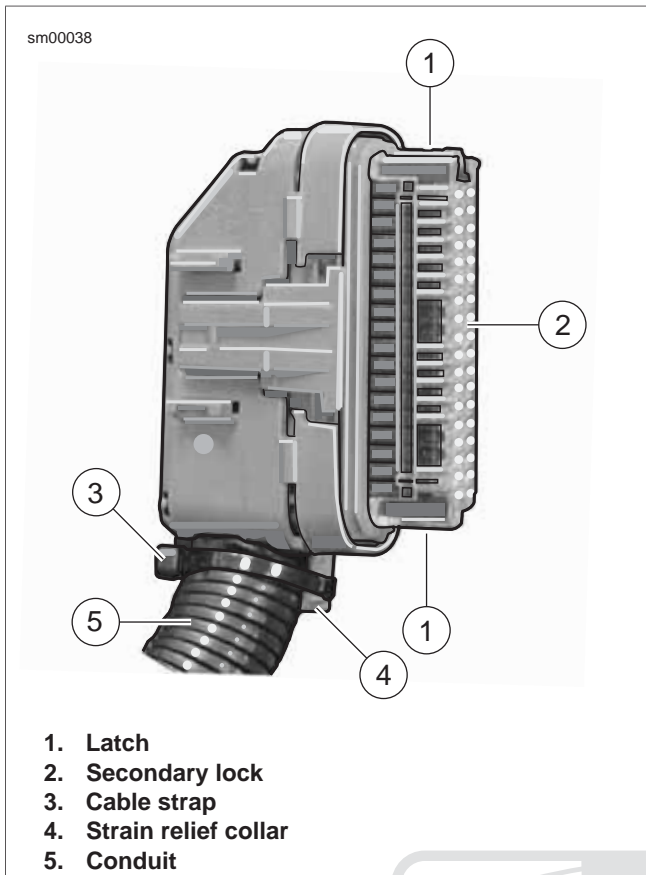
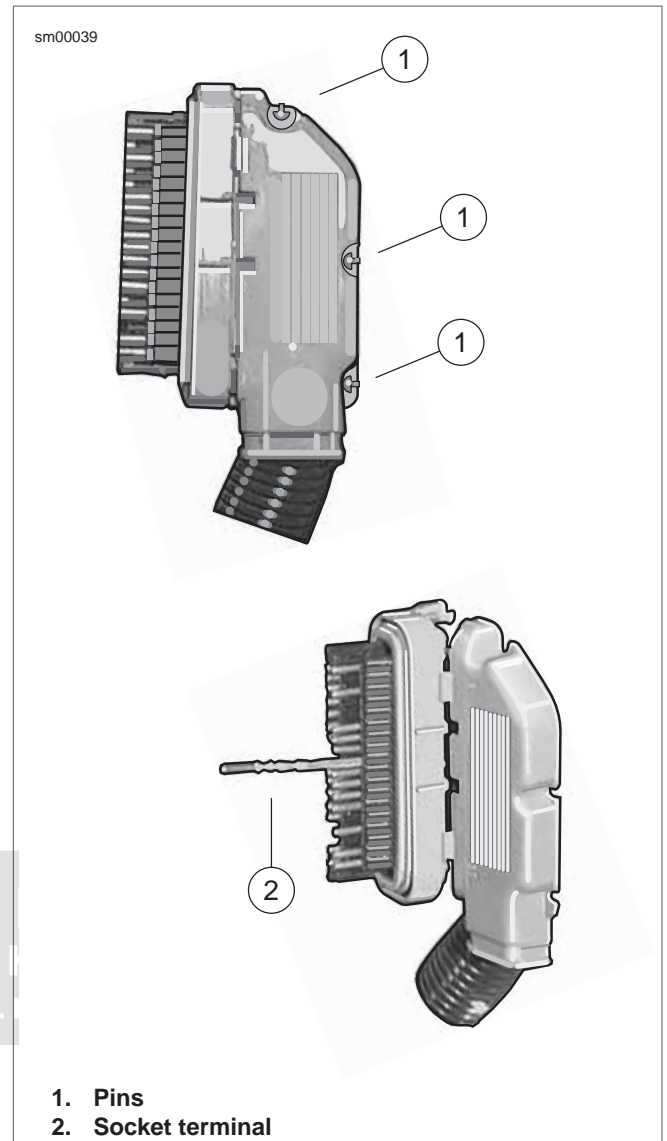

Figure A-39. Packard 100W Connector
Figure A-40. Packard 100W Connector: Separate Halves of Socket Housing
1. See Figure A-39. Gently press latch (1) on each side of the clear plastic secondary lock (2) and remove. For best results, release one side at a time.
2. Carefully cut cable strap (3) to free strain relief collar (4) from conduit (5).
3. See Figure A-40. Using a thin blade, gently pry at seam at back of socket housing to release three plastic pins (1) from slots in housing. Separate and spread halves of socket housing.